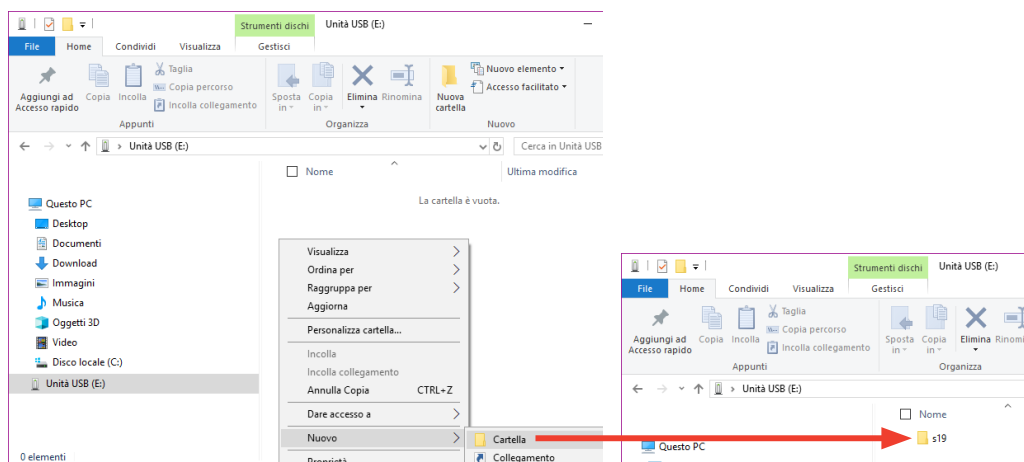

Fig. 91
- Create a new folder in the USB pendrive and name it **s19** (Fig. 91).